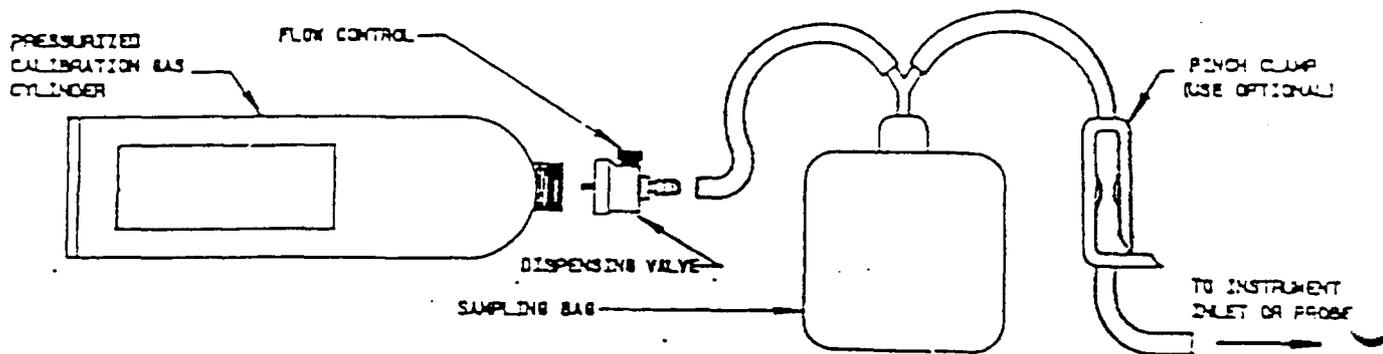

FIGURE 3
5.1.6 Remove the protective red plastic cap from the cylinder outlet of a tank of methane (2 to 5% LEL). See Figure 3.